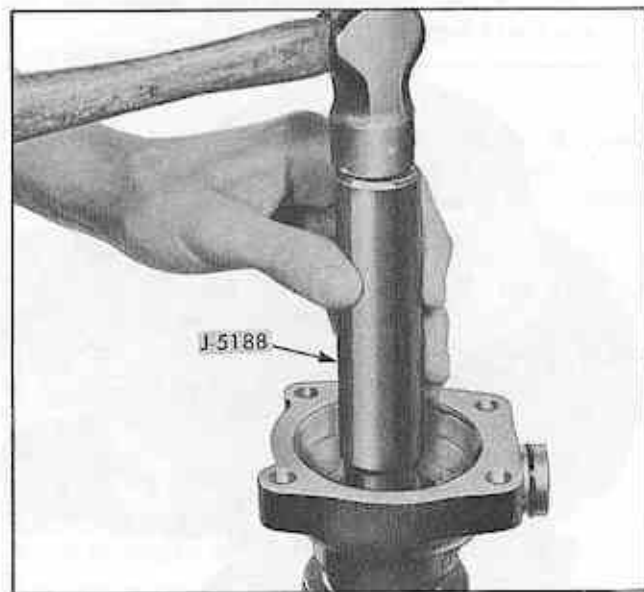

Fig. 78 Replacing End Cover Bearing or Seal
1. Lubricate needle bearing with wheel bearing lubricant and install in end cover using Tool J-5188 (Fig. 78). NOTE: The bearing identification marks must be against shoulder of tool.